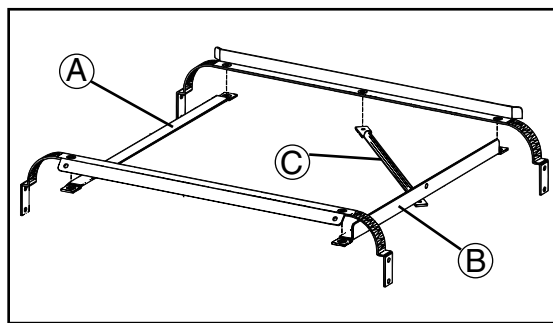

Figure 2b
1. Remove the front rack guide (A). Discard the square spacers.
2. Move front rack guide (A) to the left side of the rack tracks. (See Fig. 2b) Use existing hardware.
3. Unbolt the track (B) and rack support rod (C).
5. Bolt (B) and (C) as shown in Fig. 2b.